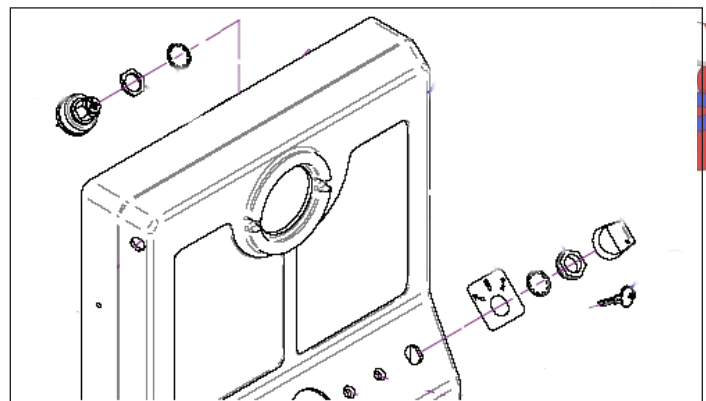

Figure 8-11. Directional Key Switch and Power Key Switch Mounting
3. Remove hex nut and tooth washer (Figure 8-11) and remove key switch out the back of the console.
3. Remove hex nut and tooth washer (Figure 8-11) and remove key switch.
3. Position new power key switch into console and secure with tooth washer and hex nut (Figure 8-11).